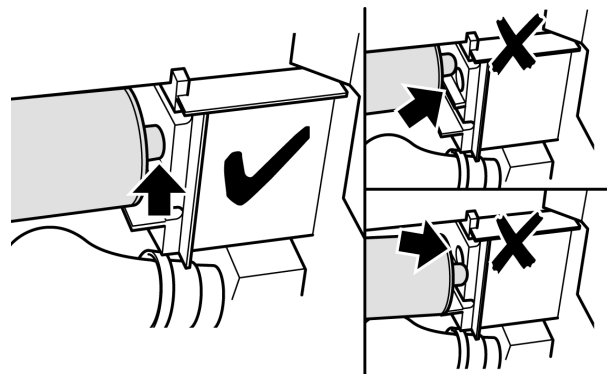

Figure 1a
- The drum has a spring loaded axle at its right hand end. This should fit into the hollow recess in the black plastic holder. See figure 1a.